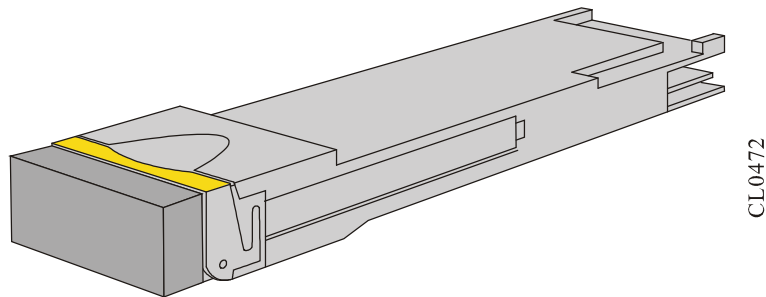
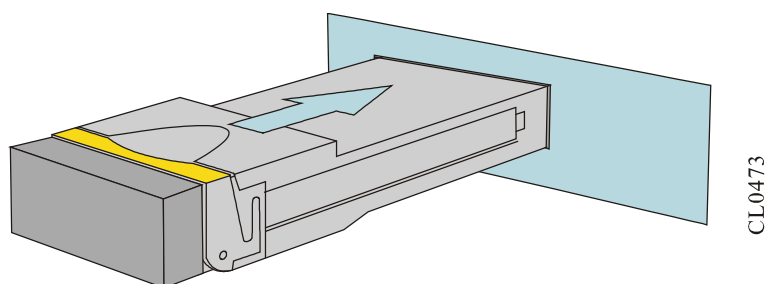

Figure 4-19 QSFP+ modules
Figure 4-20 Install the QSFP+ module
Step 2: Take out the QSFP+ module from the packing box. Figure 4-19 shows the schematic diagram of the QSFP+ module. Hold both sides of the QSFP+ module with your hands, and push it horizontally into the interface slot of the switch until the QSFP+ module is in close contact with the slot (you can feel that the shrapnel on the top and bottom of the QSFP+ module are stuck in the interface slot during the insertion process), as shown in Figure 4-20 shown.